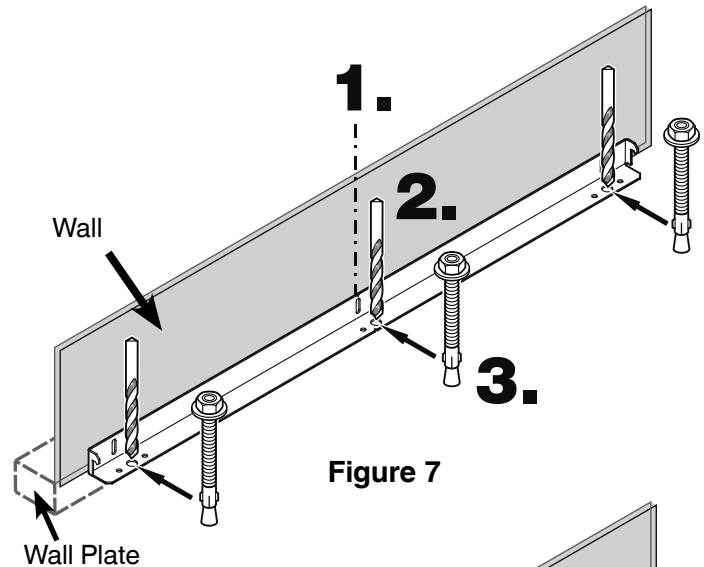

Figure 7
Mounting the anti tipping device on concrete floors - Figure 7 - 8
2. Drill a 3/8" diameter hole in any position as shown in **Figure 7** using a carbide drill bit.